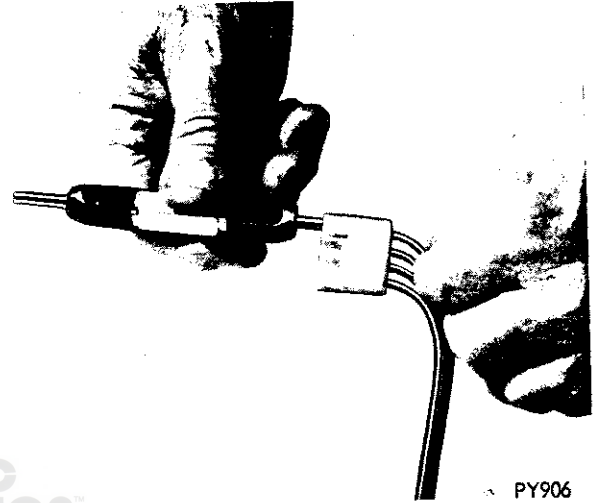

Fig. 8—Removing Wire Terminals with Tool C-4135
(2) Remove steering wheel. See Group 19 "Steering".
(3) Remove turn signal switch and lever attaching screw.
(4) Remove steering column cover plate and support steering column while clamp is removed to prevent column from sagging.
(5) Remove wire harness trough to facilitate reaching the lower end of speed control switch lead wires (Figs. 4 through 5) and remove wires and terminals from connector with Wire Harness Tool C-4135 (Fig. 8).